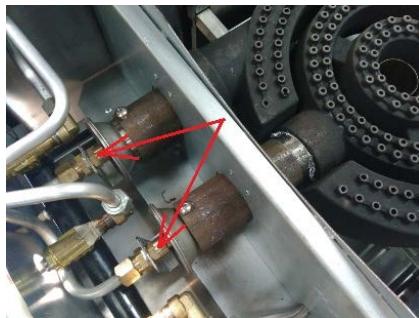

Fig.8
2. As Fig.8 show, screw out the Nat. gas orifice[#32(ϕ 3.0mm)] counter-clockwise, then screw in the LP gas orifice[#43(ϕ 2.3mm)] clockwise.